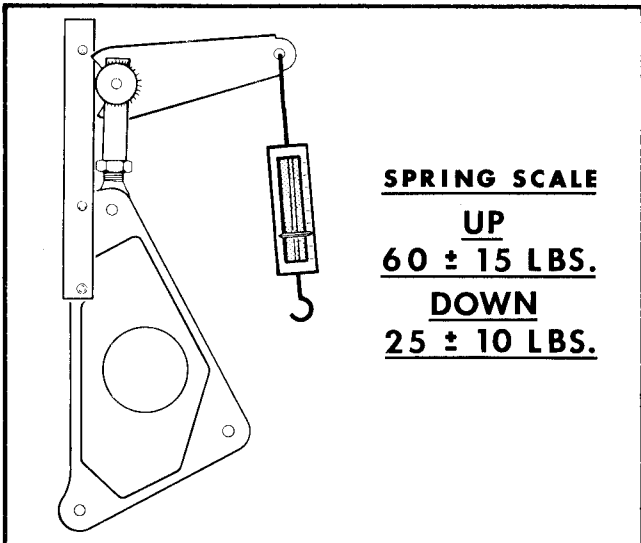

Figure 2-60. Nose Gear Tension Requirements
3. Check the uplock tension at the nose gear door actuator arm, as illustrated in figure 2-60. The force required to move the connector link from its position against uplock torque tube must be 60 ± 15 pounds.